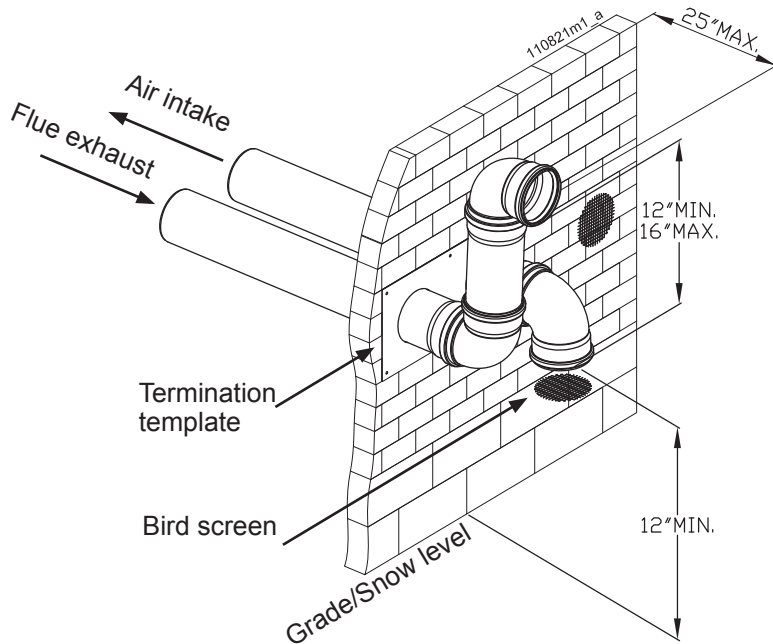

Figure 12-15 Two pipes sidewall termination of air and vent
3. The vent piping must terminate in an elbow pointed outward as shown in Figures 12-15 or 12-16 or in a roof as shown in Figure 12-22.
Do not exceed the maximum lengths of the outside vent piping shown in Figures 12-15, 12-16 or 12-22. Excessive length exposed to the outside could cause freezing of condensate in the vent pipe, resulting in potential heater shutdown.
3. The air piping must terminate in a down-turned elbow as shown in Figures 12-15 and 12-16. This arrangement avoids recirculation of flue products into the combustion air stream.
4. The vent piping must terminate in an elbow pointed outward or away from the air inlet, as shown in Figures 12-15 and 12-16.
Do not exceed the maximum lengths of the outside vent piping shown in Figures 12-15 and 12-16. Excessive length exposed to the outside could cause freezing of condensate in the vent pipe, resulting in potential heater shutdown.
5. Maintain clearances as shown in Figures 12-15 and 12-16. Also maintain the following:
1. The air termination coupling must be oriented at least 12 inches above grade or snow line as shown in Figures 12-15 and 12-16.
2. Maintain the required dimensions of the finished termination piping as shown in Figures 12-15 and 12-16.
3. Do not extend exposed vent pipe outside of the building more than what is shown in Figures 12-15 and 12-16. Condensate could freeze and block vent pipe.